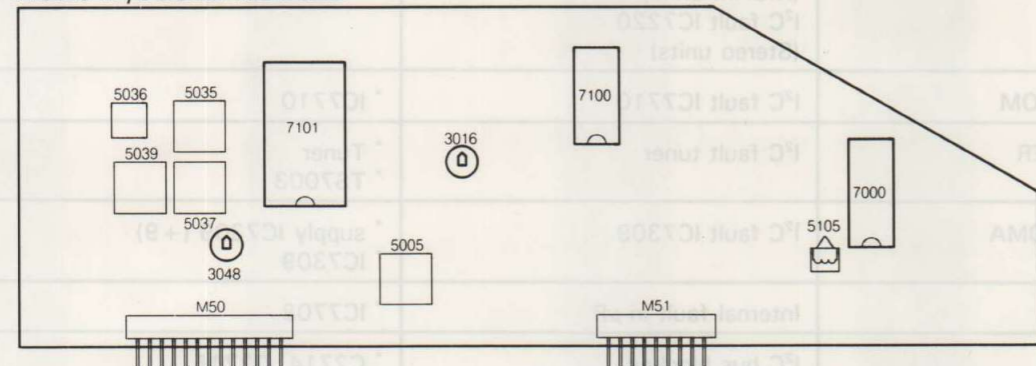

Fig. 7.3
2. MF/sound module adjustment (Fig 7.3)